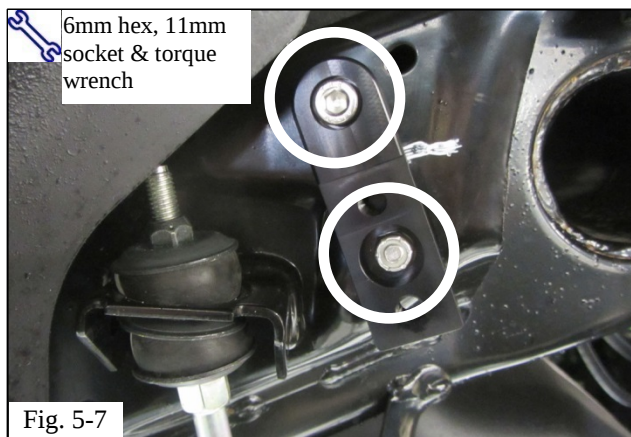

Fig. 5-7
- (i) Swing the reservoir bracket adapter right side up and torque the M8 SHCS into the threaded hole in the chassis using a 6mm hex socket (top, Fig. 5-7).
- (j) Use an 11mm socket to torque the 1/4" nut (bottom, Fig. 5-7).